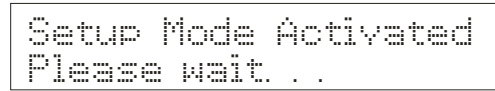

Figure 159
2. Press **SETUP** to enter the setup mode. The display will flash *Setup Mode Activated, Please wait. . .* See **Figure 159**.